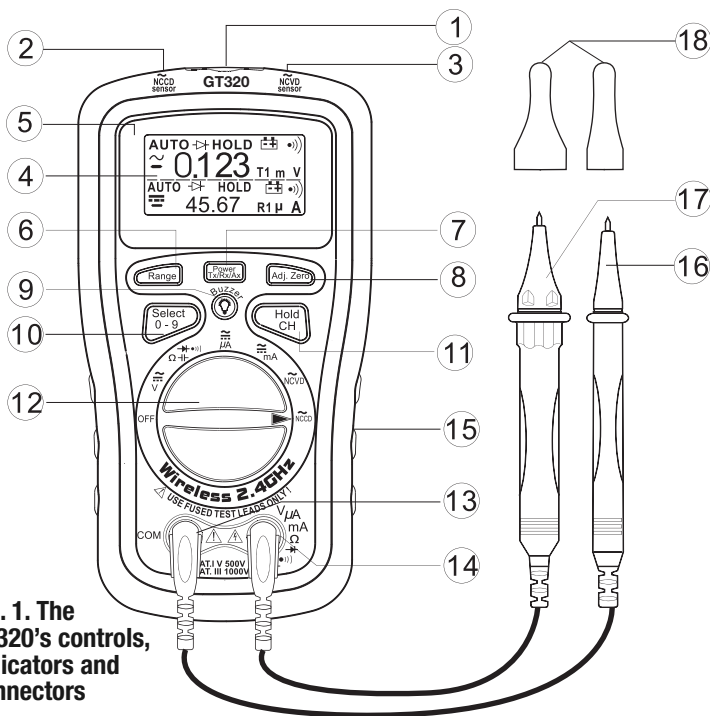

Fig. 1. The GT320's controls, indicators and connectors
Fig. 1 shows the labels and positions of the controls, indicators and connectors on the front and top of the GT320. Familiarize yourself with their functions, as explained below, before moving on to the Setup Instructions and Operating Instructions.
- The meter is equipped with an Auto Power Off (APO) function that is triggered by 15 minutes with no input. It cannot be disabled. To “wake up” the meter in the same measurement state (but not transmission/reception state) it was in when the APO function activated, briefly press the **Power/Tx/Rx/Ax** button (Callout 7 of Fig. 1). You need not turn the rotary dial to power the meter on again.